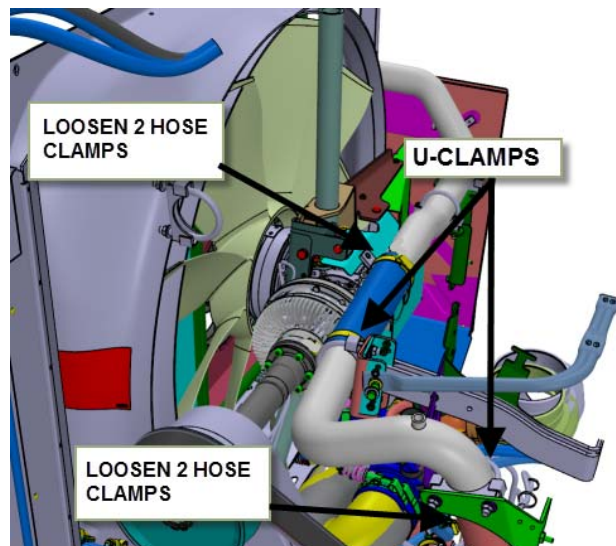

FIGURE 4
- Loosen the hose clamps (4 clamps) shown on FIGURE 4.
- Remove the two (2) U-clamps shown on FIGURE 4.